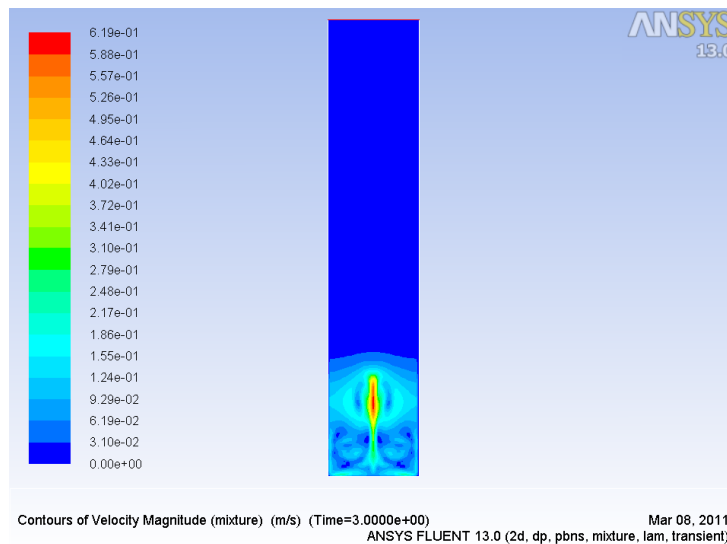

Figure 3: Contours of liquid Velocity Magnitude
2. Display filled contours of liquid velocity magnitude (Figure 3).